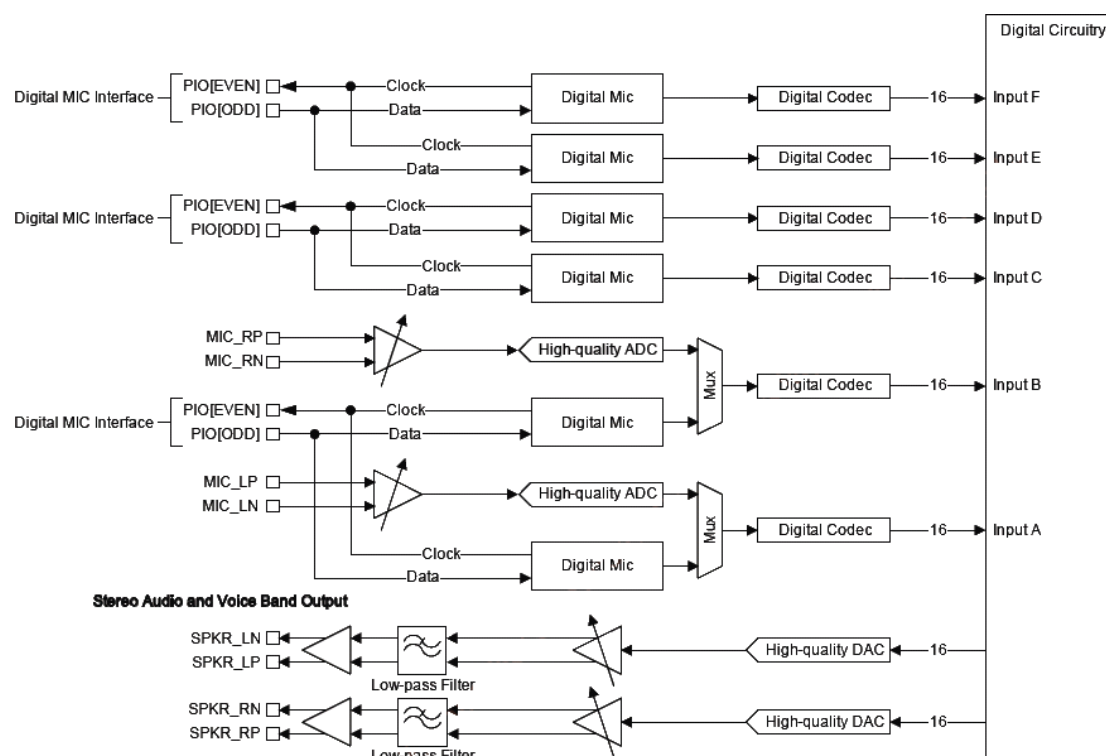

Figure 9.2: Audio Codec Input and Output Stages
Figure 9.2 shows the module consists of 2 high-quality ADCs:
- 2 fourth-order Sigma-Delta converters enabling 2 separate channels that are identical in functionality, as Figure 9.2 shows.